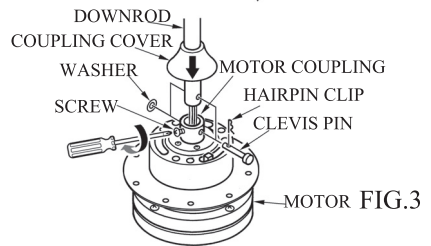

FIG.3
3. Align the clevis pin holes in the downrod with the holes in the motor coupling. The clevis pin must pass through the holes in the motor coupling and the downrod. Place the washer onto the clevis pin and install the hairpin clip making sure to push straight leg of the hairpin clip through the hole near hanger ball to make sure the clevis pin is properly installed. Reinstall the 2 set screws in the motor coupling and securely tighten set screws against the down rod assembly. (see Fig.3)